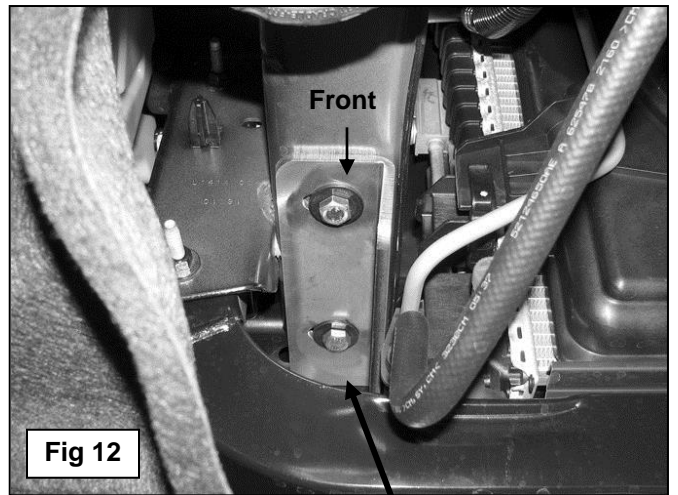

Fig 12
channel with (2) 10mm x 35mm Hex Bolts, (2) 10mm Flat Washers and (2) 10mm Lock Washers, **(Figure 12)**. Do not tighten hardware at this time. Repeat this Step for passenger side Frame Bracket installation.